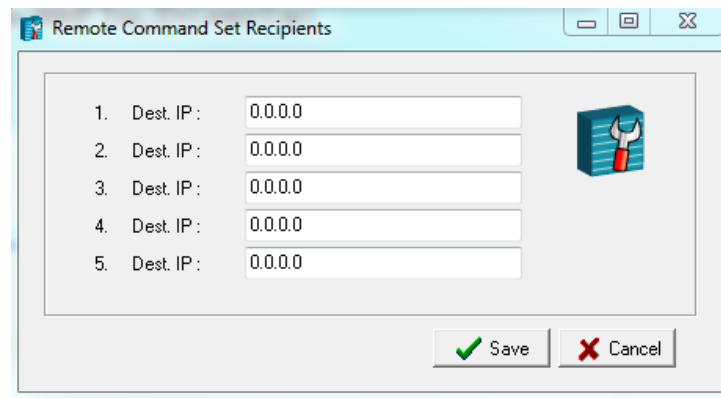
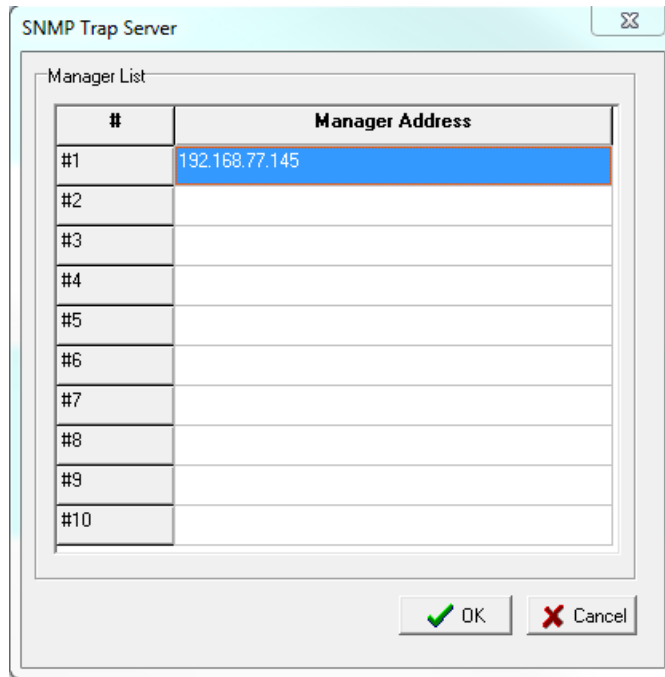

Figure 23: Desktop IP Settings
Figure 24: Set the SNMP Trap Server
10. Enter the desktop IP of the connected workstations, which should receive the SNMP Traps, either for each I/O separately (s. Figure 23) or over SNMP Trap Server button  above the “Logic Configuration” field (s. Figure 24).